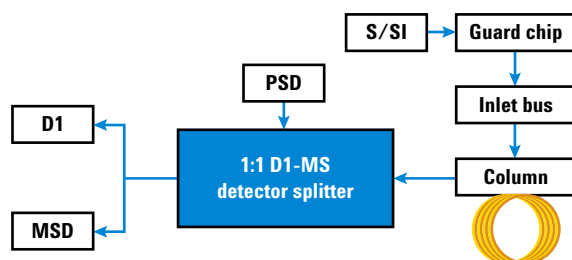

Figure 72 1:1 D1-MS Detector Splitter flow diagram
The Intuvo 1:1 D1-MS Detector Splitter is used to split the effluent from the analytical column to two different detectors, where one detector is operated at atmospheric pressure and the other is operated at sub-ambient pressure. The D1 detector can be any of the supported atmospheric detectors. The D2 is a mass spectrometer (MS). See Figure 72.